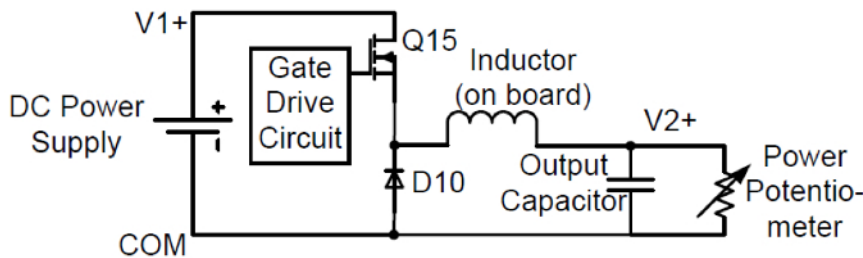

Figure 2. Buck converter circuit
5. Build the circuit shown in Fig. 2 by using the upper MOSFET, lower diode, and BB magnetic board. Record the inductance value shown in the board. Note that the BB magnetic board has an inductor with two terminals that plug in to the DC-DC converter (power-pole) board.
2. Make sure the switch array for MOSFET selection, PWM selection, and other settings are as shown in Fig. 2.